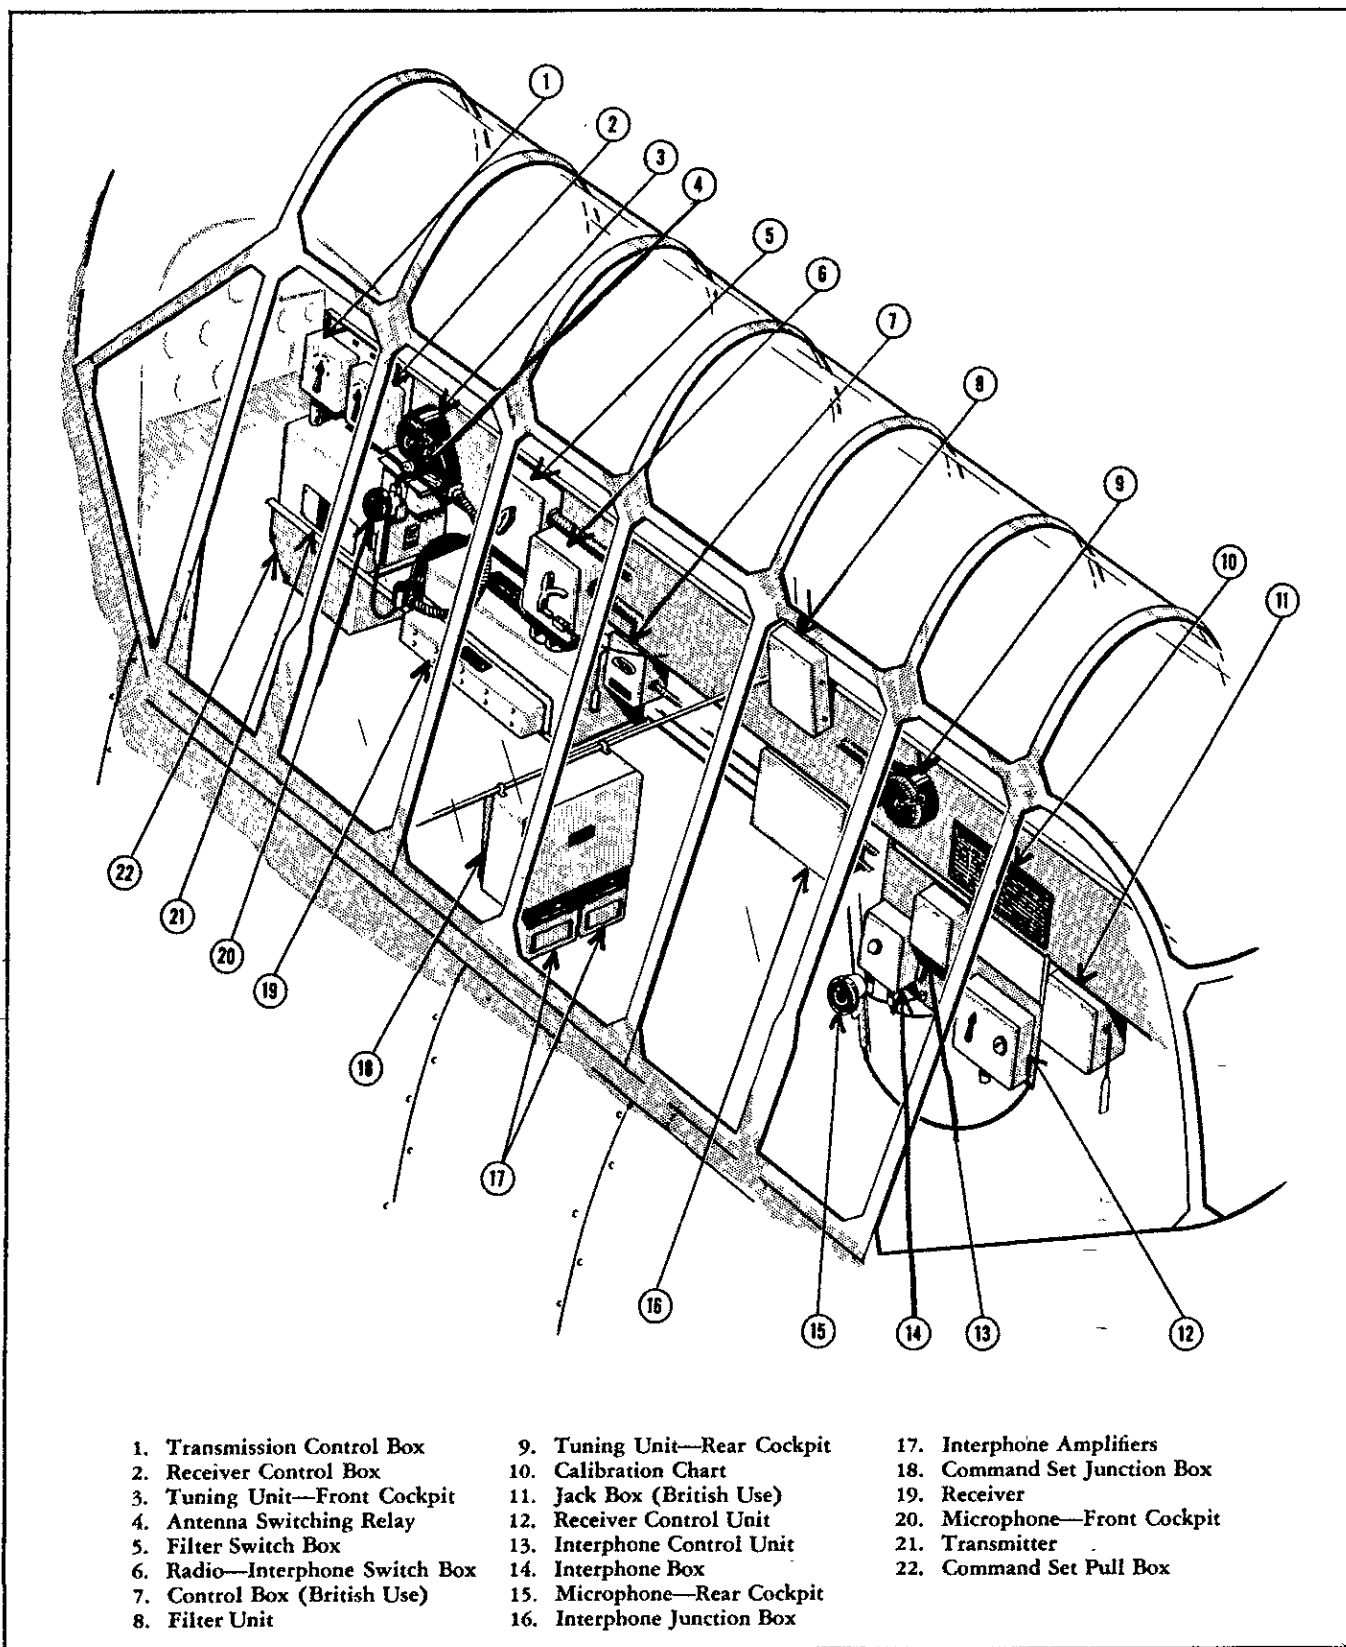

Figure 31 — Communication System
a. DESCRIPTION. (See figure 31.)—The command set SCR-AL-183 installation consists of a transmitter (2500 to 7700 kc) and a receiver (201 to 398 kc and 2500 to 7700 kc), both of which are provided with extra coils and tuning arrangements to obtain the desired operating frequency. Duplicate controls are provided in each cockpit; however choice of reception and type of transmission is controlled from the front cockpit only. An interphone installation, RC-27, provides intercommunication between the two cockpits.